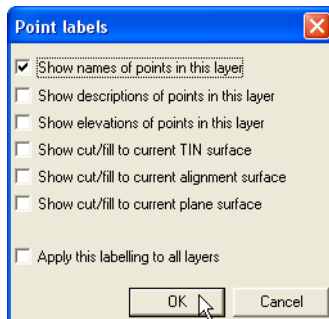

Figure 2-9. Select Point Labeling Parameters for Layer
2. Check the desired label settings for the layer (or for all layers) and click **OK** (Figure 2-9).